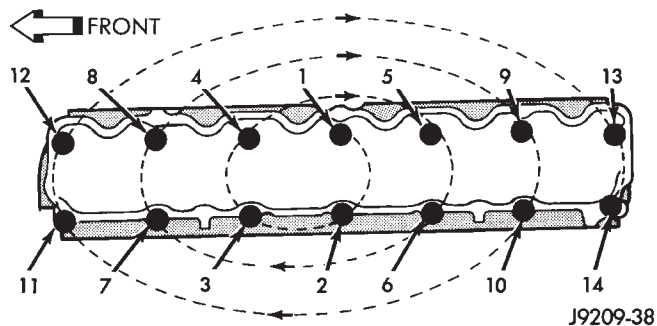

Fig. 33 Engine Cylinder Head Bolt Tightening Sequence
(3) With bolt No.14 held in place (tape around bolt), install the engine cylinder head. Remove the tape from bolt No.14.
(4) Coat the threads of stud bolt No.11 with Loctite 592 sealant, or equivalent.
(5) Tighten the engine cylinder head bolts in sequence according to the following procedure (Fig. 33).